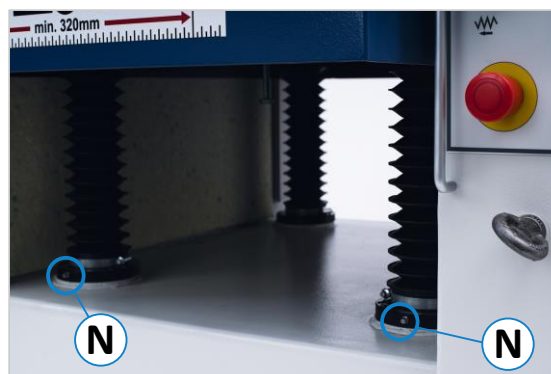

Figure 57: Grease nipples for adjusting spindles
- Move the thickening table upwards every month and lubricate the 4 adjusting spindles (N) with 2 grease shots each (⇒ Figure 57).